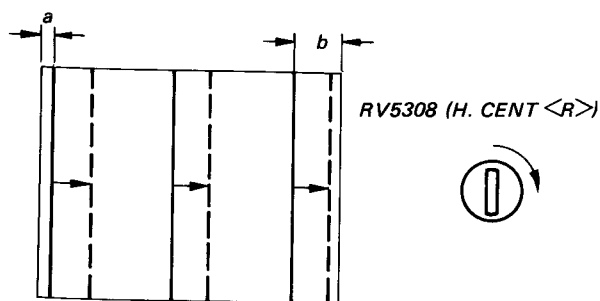

Fig. 3-11
- ① H. CENT<R>RV5308 E board
C) Adjust RV5308 (H. CENT<R>) so that "a" is equal to "b" as shown in Fig. 3-11.